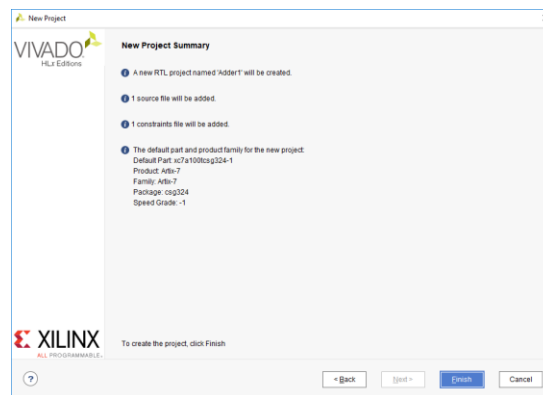

Figure 7. New Project Summary Form
- j. In the *New Project Summary* as shown in Figure 7, click *Finish* to create the project.